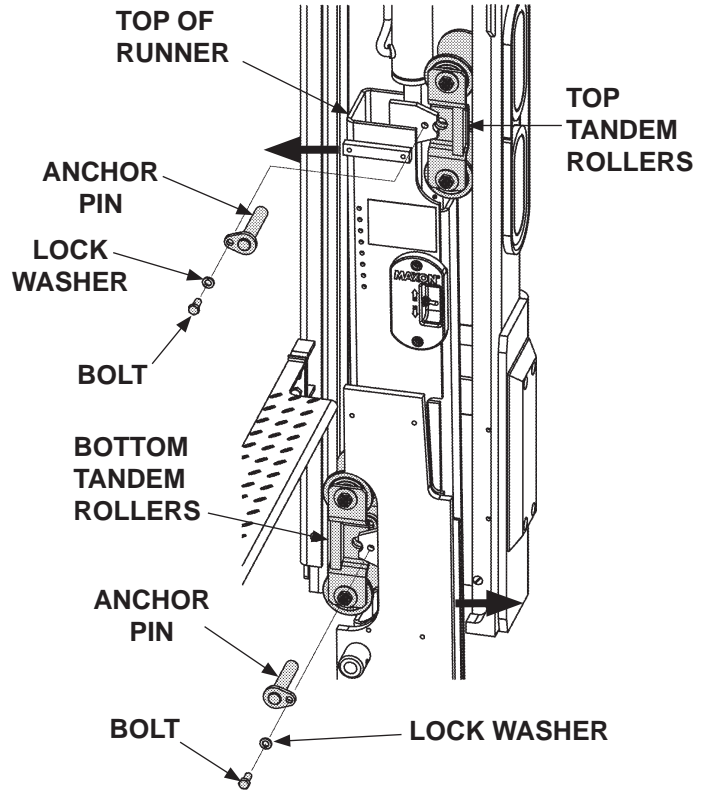

FIG. 36-2
28. If Liftgate is equipped with tandem rollers, reinstall tandem rollers at the bottom of runner as follows. Move bottom of runner away from vehicle body for enough clearance to insert tandem rollers (**FIG. 36-2**). Insert tandem rollers in correct position. Then bolt anchor pin to runner (**FIG. 36-2**).
29. To reinstall tandem rollers at top of runner, do the following. Move top of runner toward vehicle body for enough clearance to insert tandem rollers (**FIG. 36-2**). Insert the tandem rollers in correct position. Then bolt anchor pin to runner (**FIG. 36-2**).